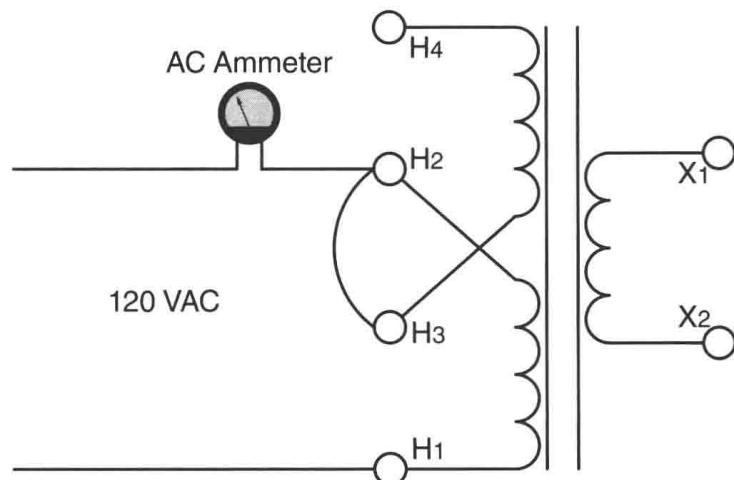

Figure 22-9 The autotransformer connected for high voltage.
15. The transformer will now be connected as a step-up autotransformer. Connect the circuit shown in Figure 22-9. Turn on the power and measure the excitation current of the primary. **Turn off the power.**